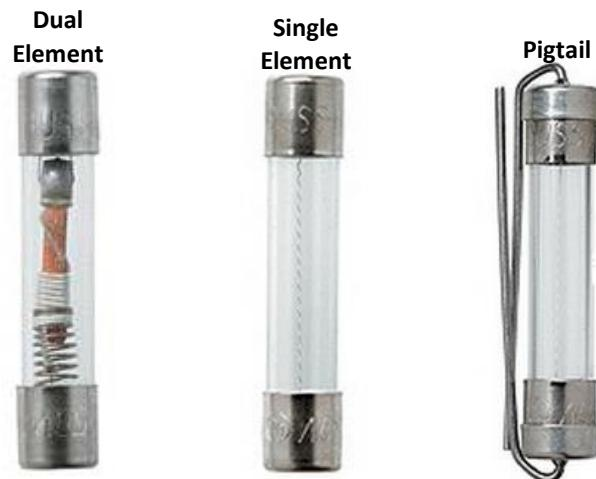

Figure 5.11: Glass-Tube Fuses
- 5-33 Glass-tube fuses are used as supplementary protection for fixtures and equipment. They are used in test equipment to protect the meter circuit. They are also used in automotive circuits and in low-voltage control circuits operating at voltages of less than 250 V. Single-element, dual-element, and pigtail glass-tube fuses are shown in Figure 5.11.